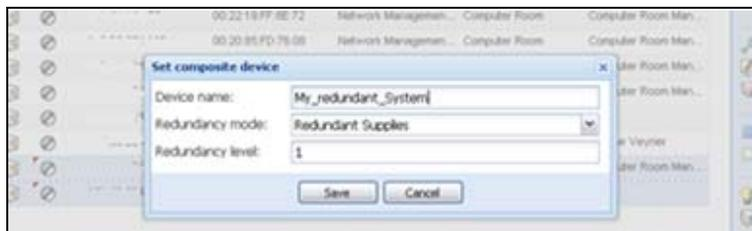

Figure 114. Set Composite Device Dialog Box
5. In the dialog box, specify a device name, redundancy mode, and level (see Figure 114):